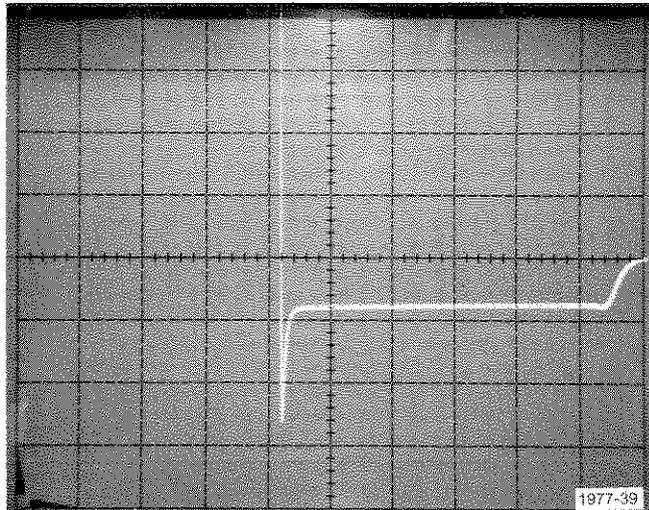

Fig. E-3. + Input bias current.
b. Check that the horizontal portion of the trace deflects vertically 5 divisions from the display zero reference point; this represents a +Input Bias Current ≤ 250 nA (see Fig. E-3).